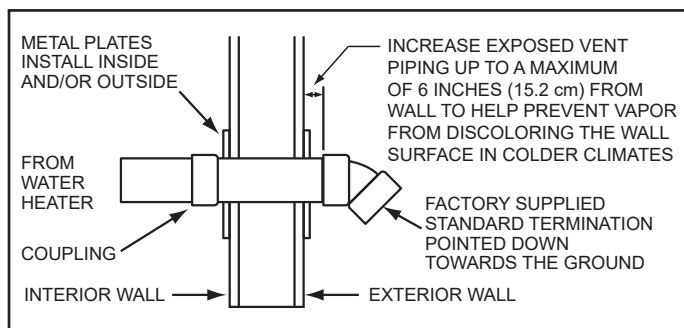

Figure 35. Sidewall Termination Installation
12. Working from outside, slide the pipe and termination(s) assembled in the above steps through the wall. Ensure that the termination(s) is pointed down towards the ground. See **Figure 35**.
16. Install a coupling to the end of the pipe(s) inside the building. Before the silicone caulking has time to completely set, go outside the building and ensure that the termination(s) is still pointing down towards the ground. See **Figure 35**.